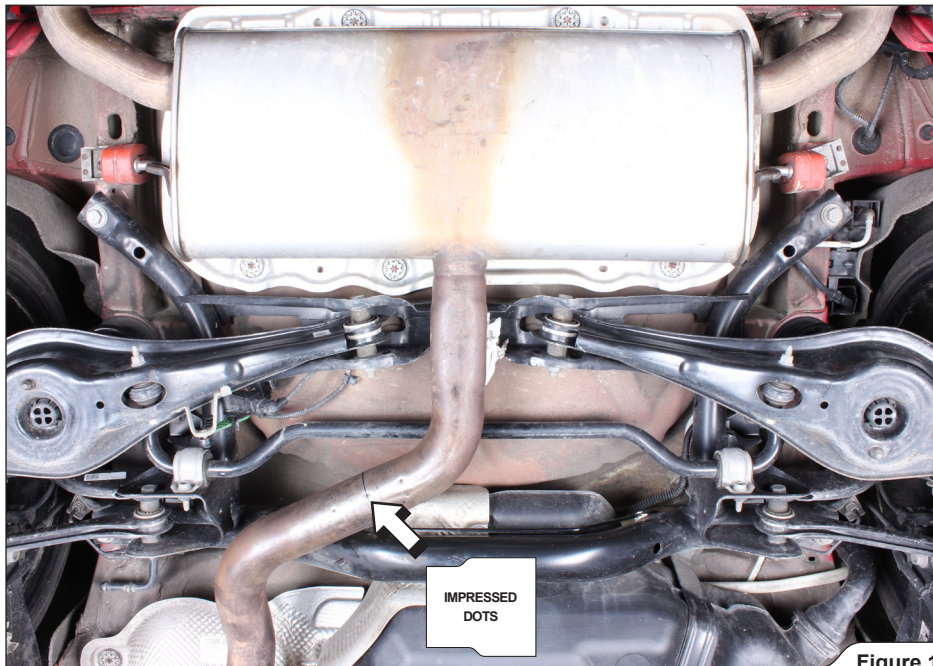

Figure 1
1. Mark the stock muffler's inlet pipe exactly at the middle set of the impressed dots, as shown and cut the pipe with pipe cutting tool (Figure 1, 2).